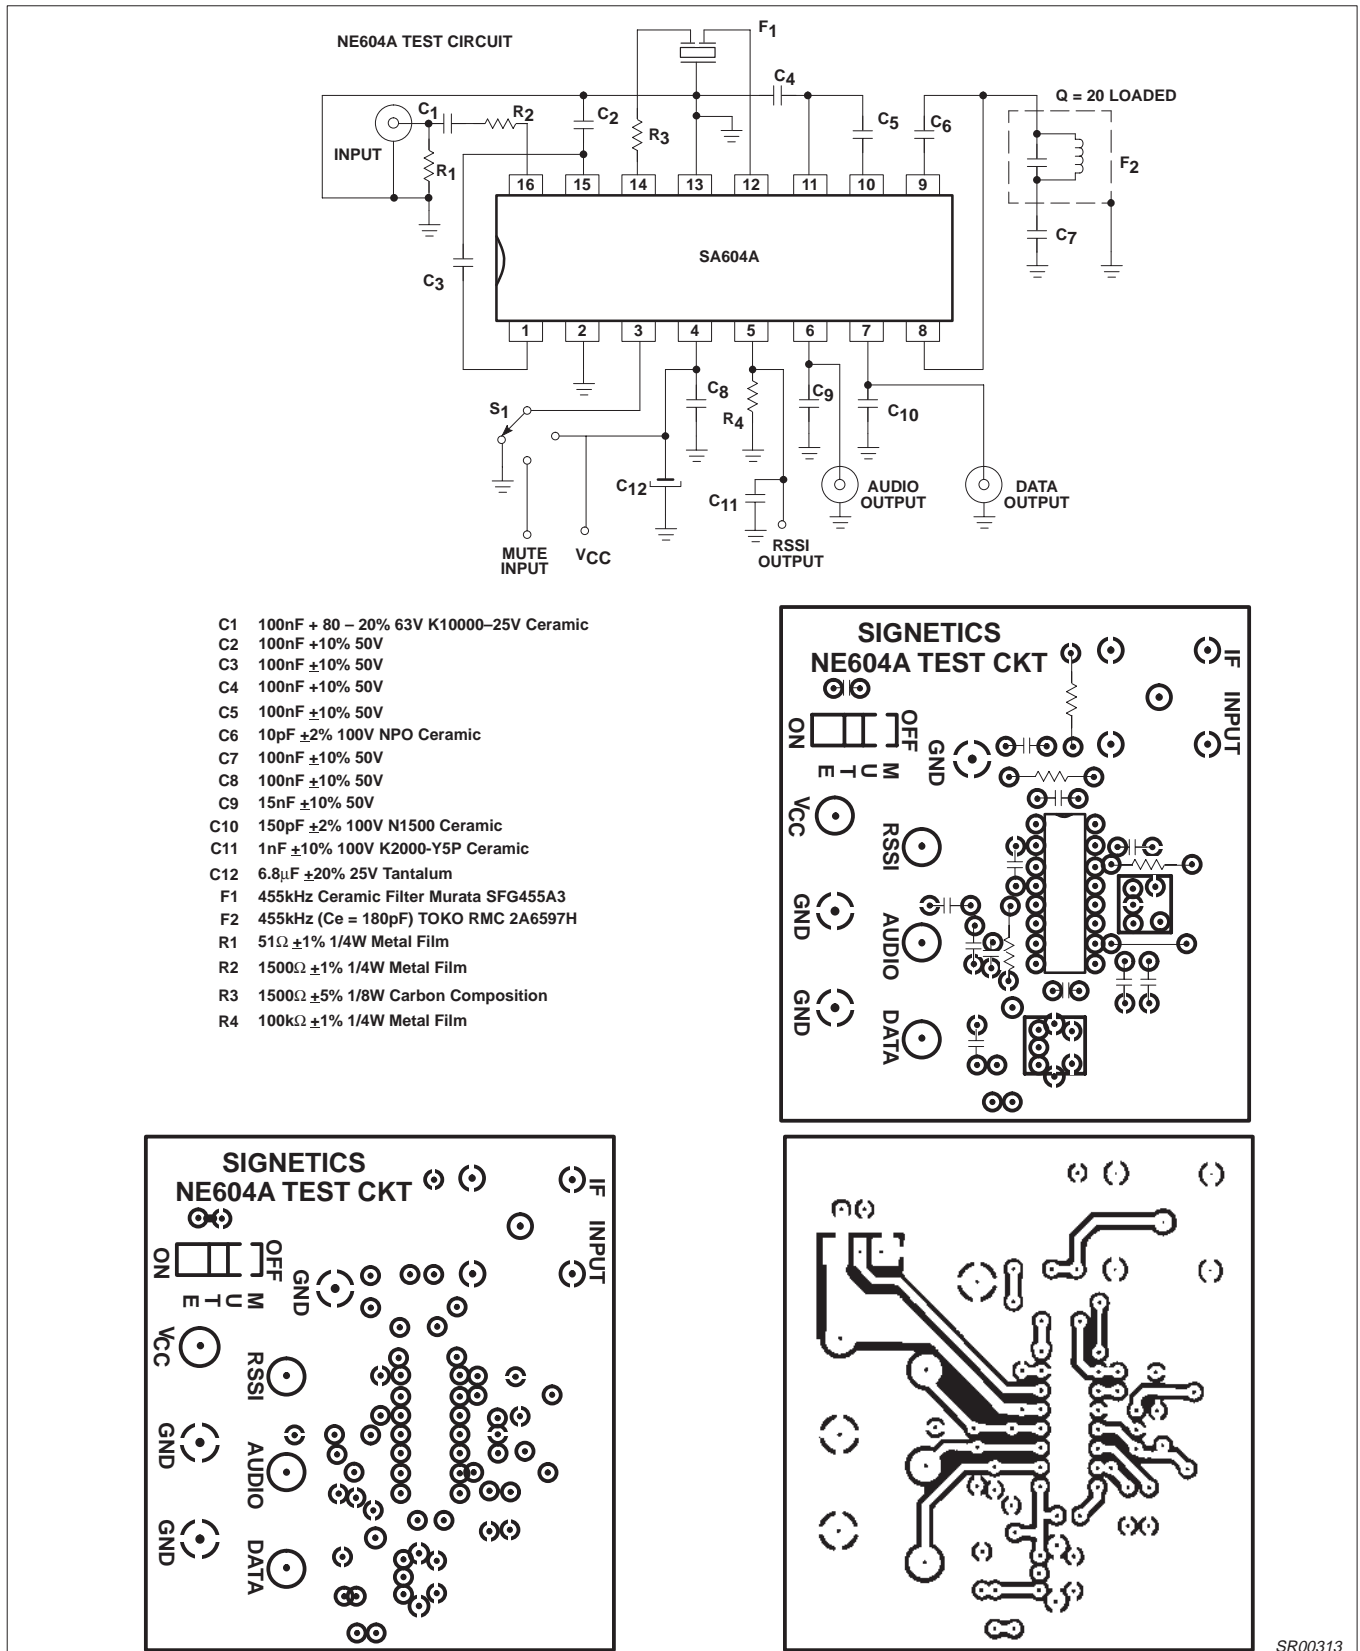
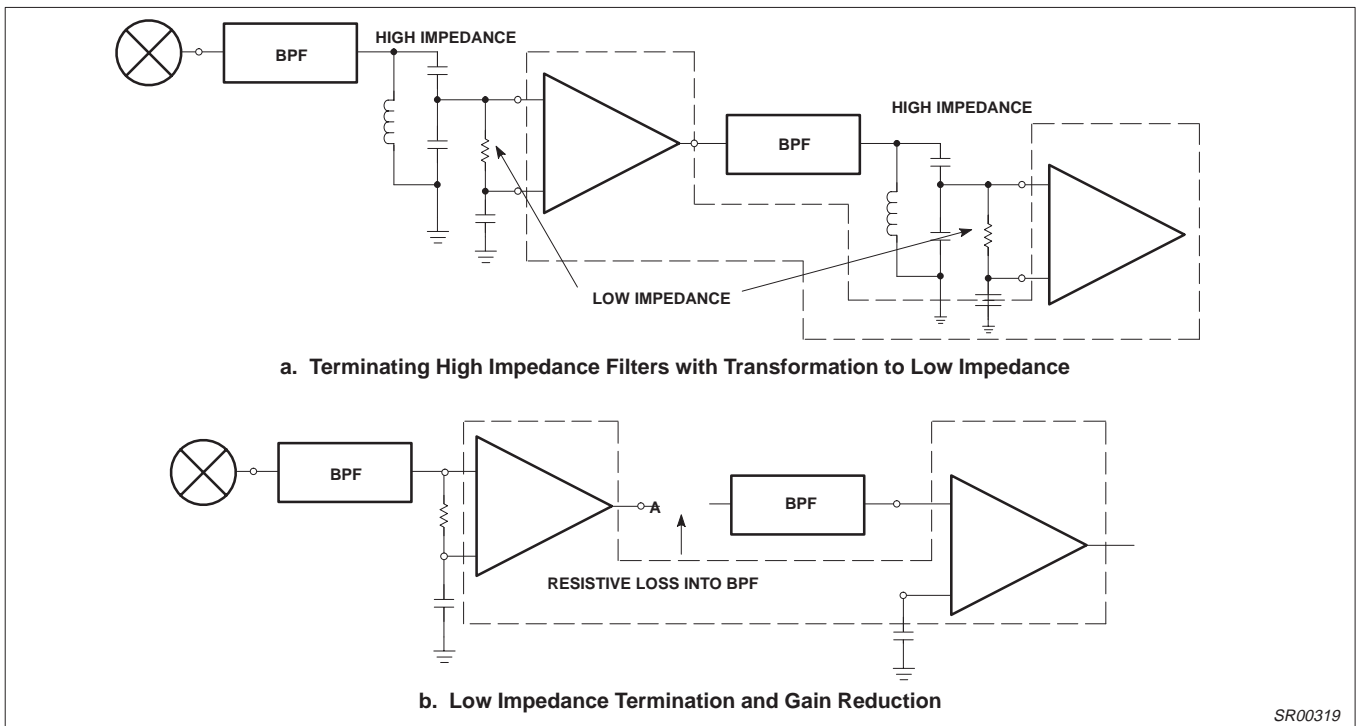

Figure 3. SA604A Test Circuit
Figure 9. Practical Termination
Typical reading at  $T_A = 25^\circ\text{C}$ ;  $V_{CC} = \pm 6\text{V}$ , unless otherwise stated. IF frequency = 455kHz; IF level = -47dBm; FM modulation = 1kHz with  $\pm 8\text{kHz}$  peak deviation. Audio output with C-message weighted filter and de-emphasis capacitor. Test circuit Figure 3. The parameters listed below are tested using automatic test equipment to assure consistent electrical characteristics. The limits do not represent the ultimate performance limits of the device. Use of an optimized RF layout will improve many of the listed parameters.
The SA604A is a very high gain, high frequency device. Correct operation is not possible if good RF layout and gain stage practices are not used. The SA604A cannot be evaluated independent of circuit, components, and board layout. A physical layout which correlates to the electrical limits is shown in Figure 3. This configuration can be used as the basis for production layout.
There are three primary ways to deal with regeneration: (1) Minimize the feedback by gain stage isolation, (2) lower the stage input impedances, thus increasing the feedback attenuation factor, and (3) reduce the gain. Gain reduction can effectively be accomplished by adding attenuation between stages. This can also lower the input impedance if well planned. Examples of impedance/gain adjustment are shown in Figure 9. Reduced gain will result in reduced limiting sensitivity.
The high gain and bandwidth of the SA604A in combination with its very low currents permit circuit implementation with superior performance. However, stability must be maintained and, to do that, every possible feedback mechanism must be addressed. These mechanisms are: 1) Supply lines and ground, 2) stray layout inductances and capacitances, 3) radiated fields, and 4) phase shift. As the system IF increases, so must the attention to fields and strays. However, ground and supply loops cannot be overlooked, especially at lower frequencies. Even at 455kHz, using the test layout in Figure 3, instability will occur if the supply line is not decoupled with two high quality RF capacitors, a 0.1μF monolithic right at the VCC pin, and a 6.8μF tantalum on the supply line. An electrolytic is not an adequate substitute. At 10.7MHz, a 1μF tantalum has proven acceptable with this layout. Every layout must be evaluated on its own merit, but don't underestimate the importance of good supply bypass.
At 455kHz, if the layout of Figure 3 or one substantially similar is used, it is possible to directly connect ceramic filters to the input and between limiter stages with no special consideration. At frequencies above 2MHz, some input impedance reduction is usually necessary. Figure 9 demonstrates a practical means.